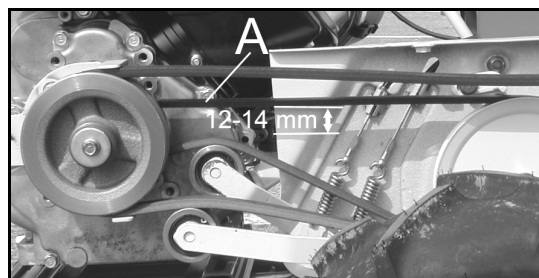

Figure 22
- Push the belt with a finger on (A, Figure 22) the belt must move from 12 to 14 mm. If the belt does not move accordingly, perform "tension wire" again.